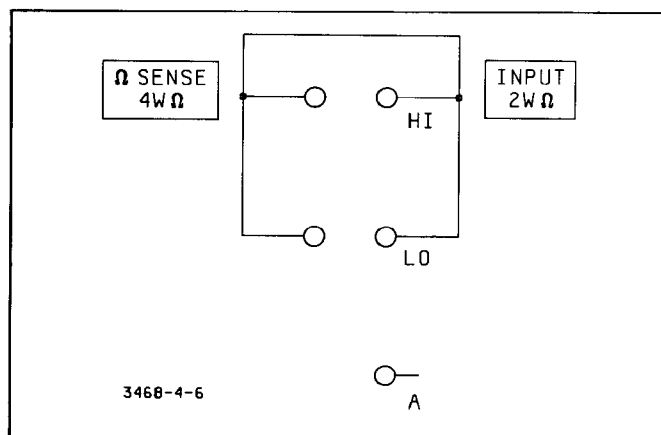
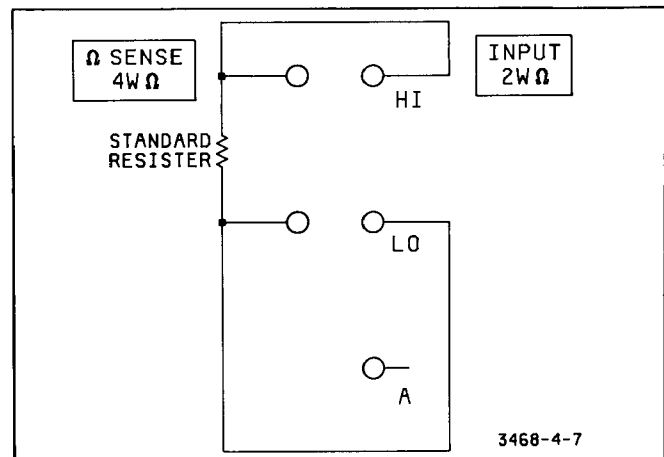

Figure 4-6. 4-Wire Ohms Test Connection
Figure 4-7. 4-Wire Ohms Connections
4-72. If the 3468A/B is to be tested in the 2-Wire Ohms Function, all test resistors are applied to the 3468A/B's INPUT Terminals. If the 4-Wire Ohms Function is to be tested, short the INPUT Terminals or connect the test resistors as shown in Figure 4-6 and Figure 4-7, respectively.
b. (Step #2.) Set the 3468A/B to the desired Ohms Function (see paragraph 4-70). If the 2-Wire Ohms Function is to be tested, short the INPUT Terminals. If the 4-Wire Ohms Function is to be tested, short the SENSE Terminals and the INPUT Terminals, as shown in Figure 4-6. Check the reading on the 3468A/B's display and record the reading on the Test Card.
e. Connect either a 300 Ω or 100 Ω Standard Resistor to the INPUT Terminals (refer to paragraph 4-71 to determine the resistor value). If the 3468A/B is to be tested in the 2-Wire Ohms Function, connect the resistor to the INPUT Terminals. If the test is to be done in the 4-Wire Ohms Function, connect the resistor as shown in Figure 4-7.